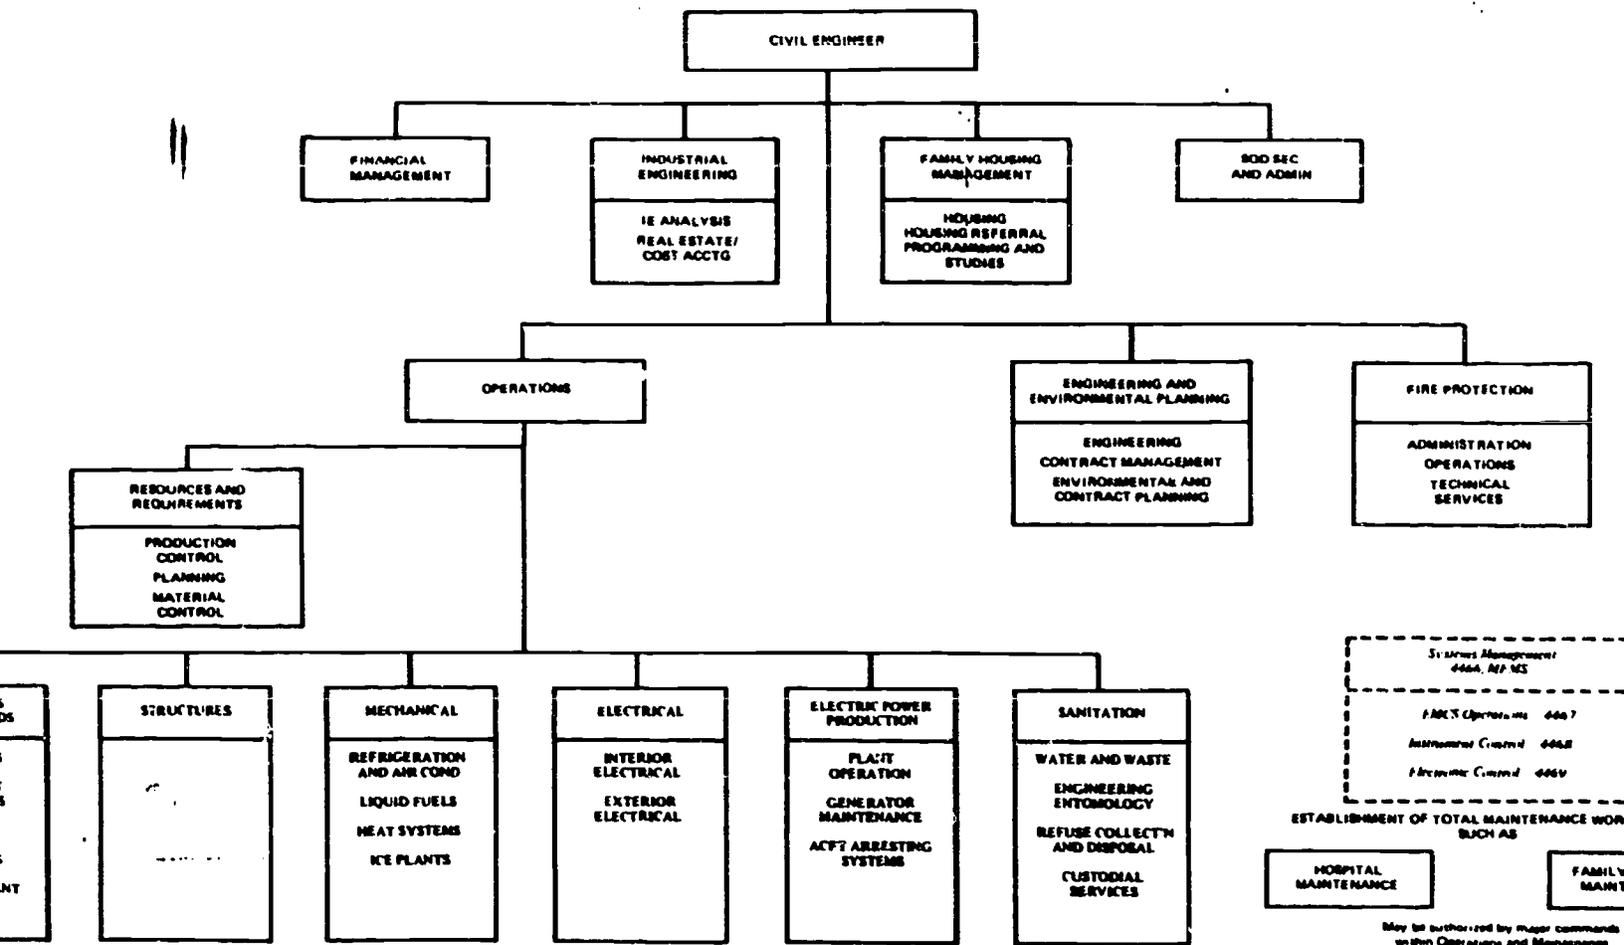

Figure 1. Base Civil Engineer Organization Chart
1. Using Figure 1, in your studyguide fill in the names of the shops in the structures section of the Base Civil Engineer Organization Chart on the next page.